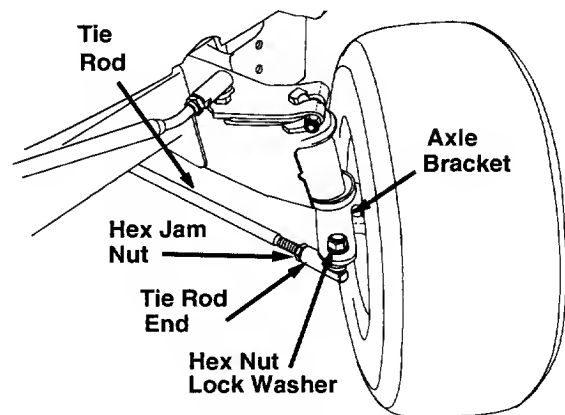

Figure 23
1. Remove the hex nut and lock washer, and drop the end of the tie rod from the axle bracket. See Figure 23.